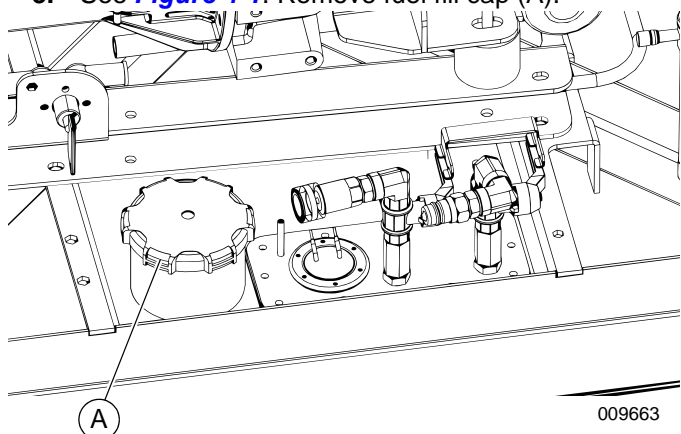

Figure 4-1. Fuel Fill Cap
3. See Figure 4-1. Remove fuel fill cap (A).